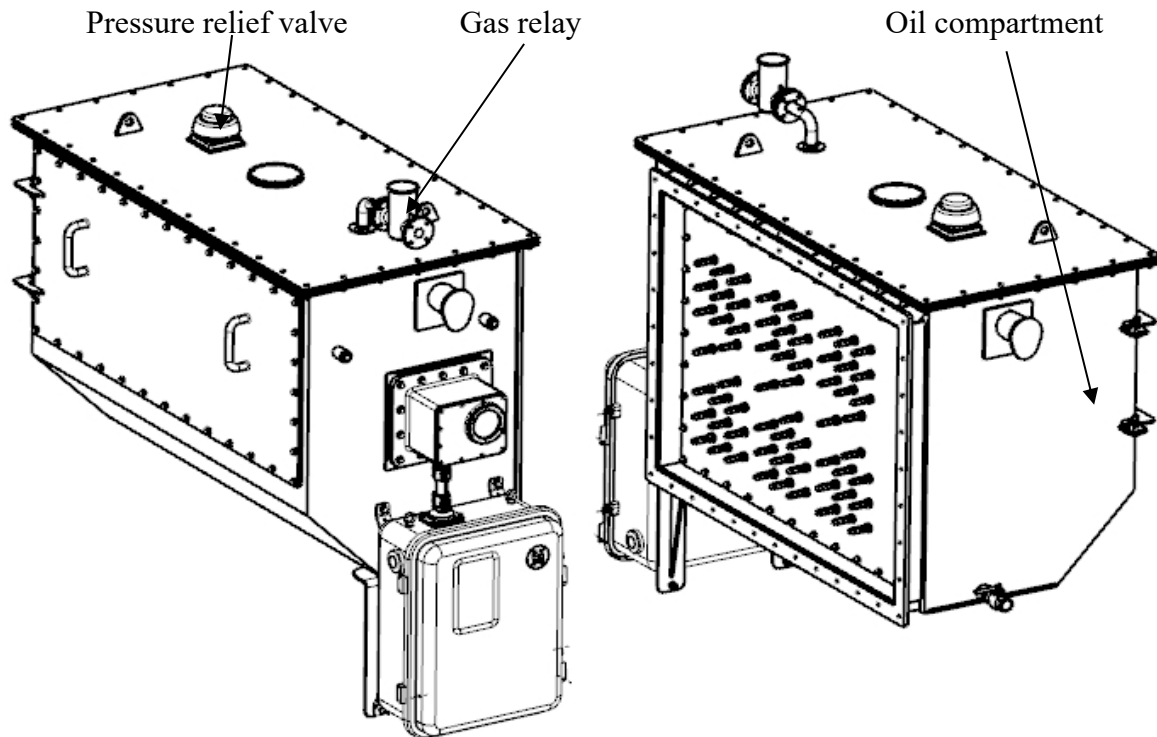
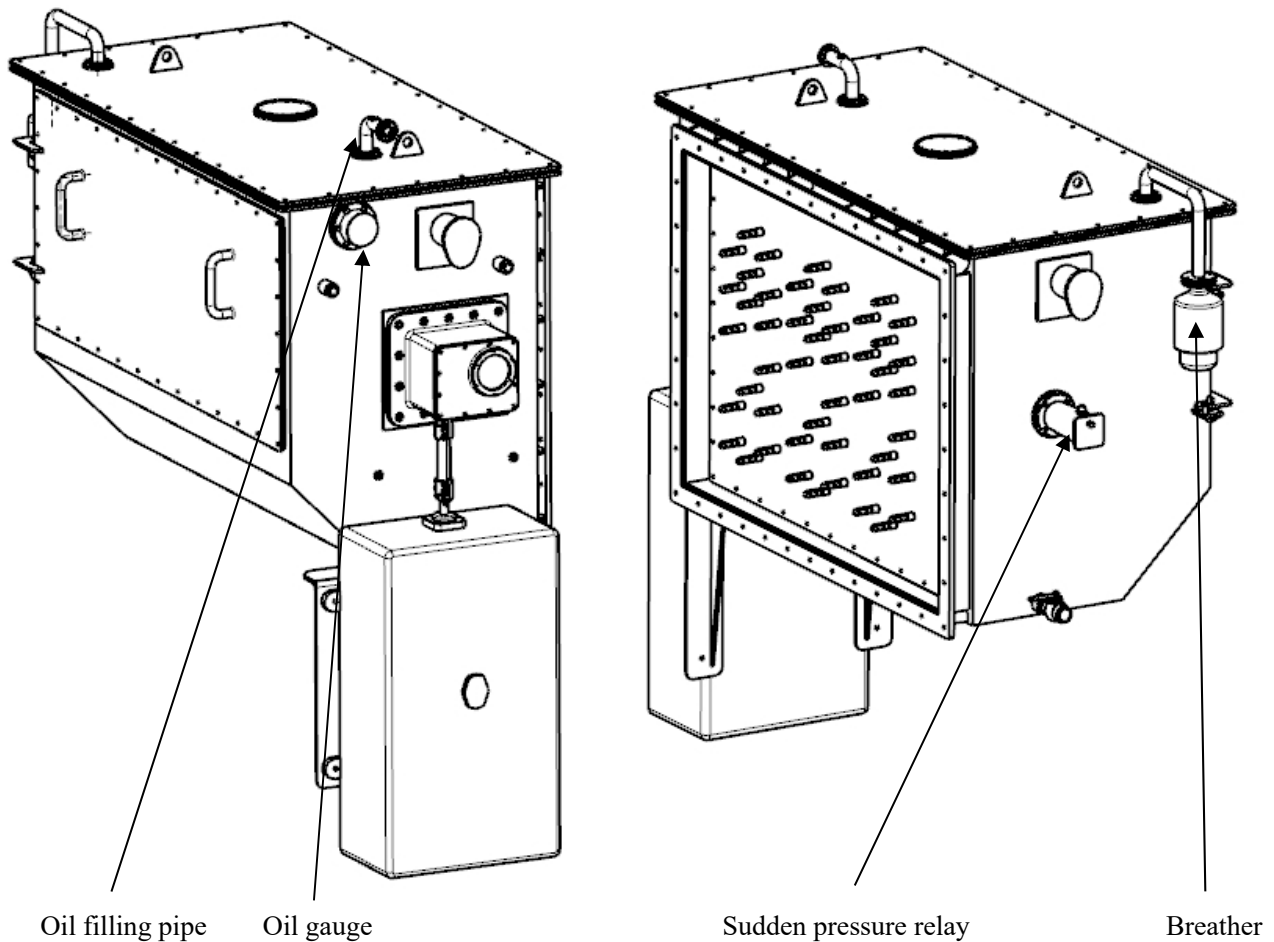

Fig. 2-1 Standard type oil compartment
Fig. 2-2 Non-standard type oil compartment
- Type HWV OLTC (Fig. 2) : Tap changer is designed in two forms, Standard type and Non-standard type according to Fig. 2-1 and Fig. 2-2.